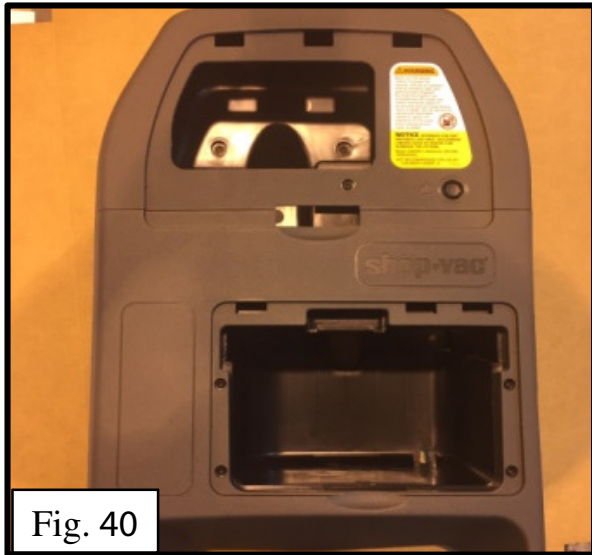

Fig. 40
1. Remove both panel doors on vacuum assembly, and remove canister assembly (Fig.40).